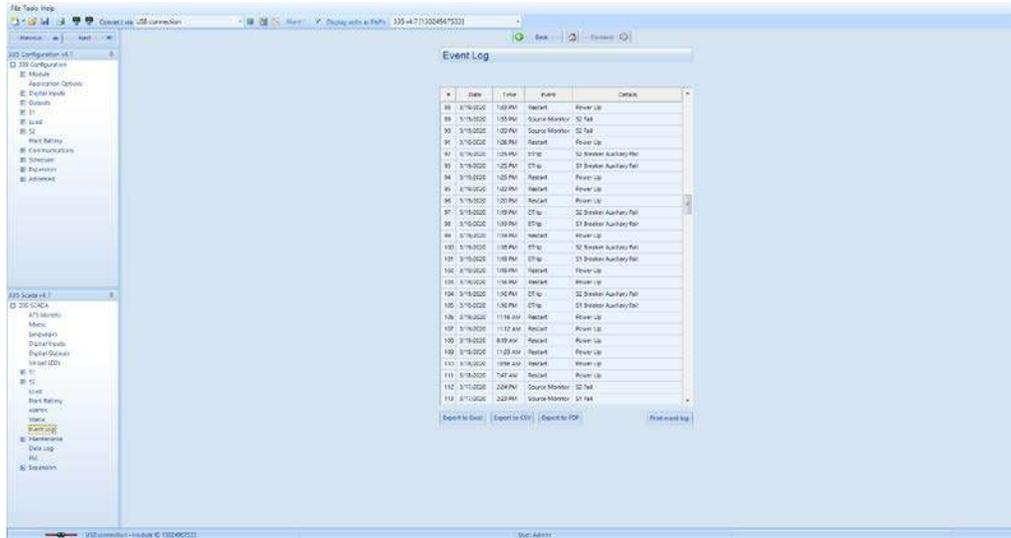

Figure 45 - Event Log Screen
18. Scroll down and click on the “Event Log” option. This will load the current event log saved on the LSE8600 controller. See Figure 45 - Event Log Screen below.